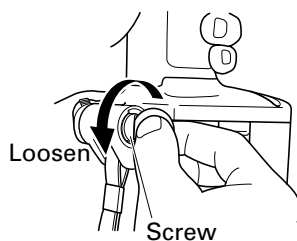

Fig. 6
- Securely hold the main unit and remove the screw using a slotted head screwdriver or a coin. (Fig. 6)